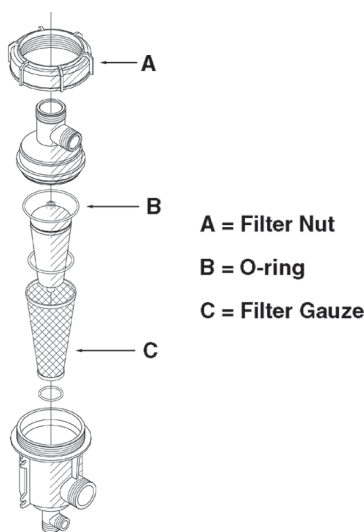

Fig 30
- 1 Unscrew the filter nut (**A** Fig 30) and open the filter.
- 2 Check the filter gauze (**C** Fig 30), clean if necessary and check there are no residues on any part of the filter/hoses.
- 3 Lubricate the O-ring (**B** Fig 30).